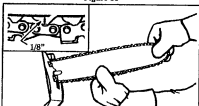

Figure 12
4. Check the tension by lifting the chain from the guide bar. Remove some of the stiffness in the chain by pulling down and letting go of the chain several times. Figure 12.
5. Continue turning the adjusting screw until the tension is correct. Figure 12 (inset).